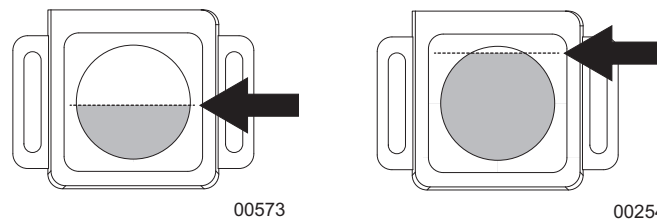

Figure 24 - Appropriate Levels: Engine Running (Left) and Stopped (Right)
- Checking sight glass: See Figure 24. The oil level should be about halfway up the sight glass when the engine is running and near the top when the engine is stopped. If not, adjust the regulator height by loosening the two screws on the regulator bracket and slowly sliding the regulator along the slots until the oil is at the proper level. Tighten the screws.
As needed, add oil into the oil reservoir. Open the valve and allow oil to drain into the controller until the sight glass is approximately halfway full when engine is running, or near the top of the sight glass when the engine is stopped (see Figure 24). The dipstick can be used to verify correct oil level when the unit is off. The valve may be left open. Close the valve before moving the unit.